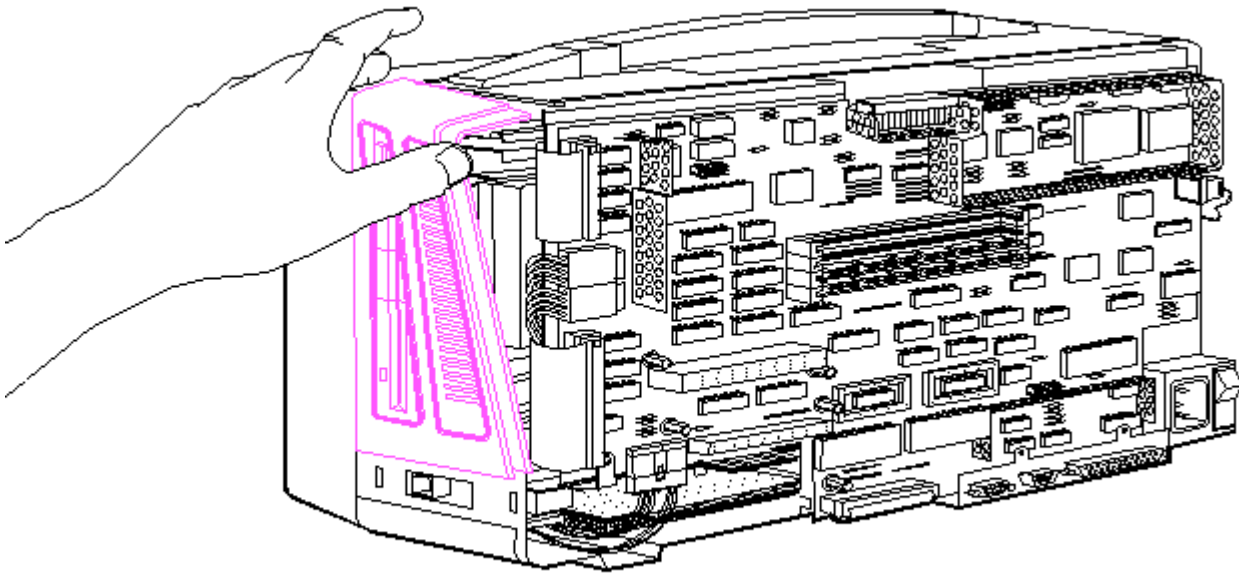

Figure 8-38. Removing the Drive Bezel
4. Pull the drive bezel away from the computer with your thumb. (Figure 8-38).